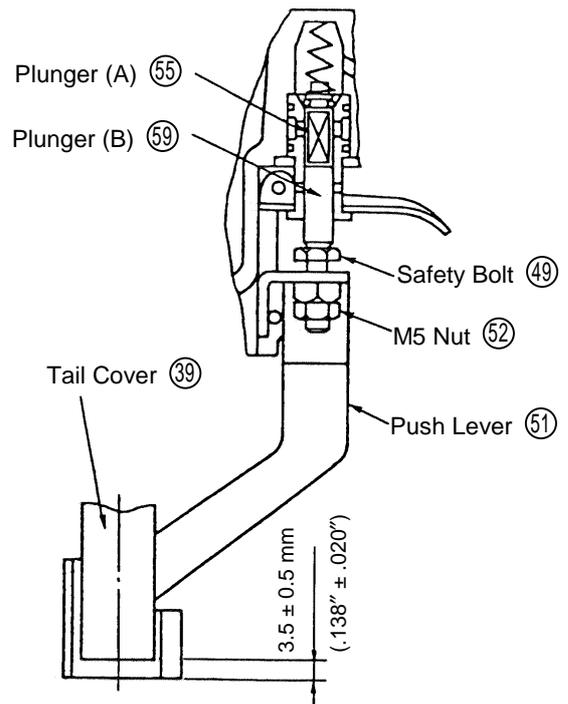

Fig. 14 Push lever assembly adjustment
- Be very careful in handling the Plunger Spring (53), as it can become twisted very easily
- To prevent the two O-Rings on the outside of the Valve Bushing (56) from being damaged when inserted into the Body, carefully apply grease to the Body hole and the outer circumference of the O-Rings prior to assembly.
(c) Adjustment of the Push Lever (51) (see Fig. 14):
- The Push Lever (51) can be adjusted by loosening the M5 Nut (52) and turning the Safety Bolt (49).
- Perform adjustment to a point where the resistance of Plunger (B) (59) pushing up Plunger (A) (55) is felt when the Push Lever is raised. At this point, the lower end of the Tail Cover (39) should be separated from the lower end of Push Lever by $3.5 \text{ mm} \pm 0.5 \text{ mm}$ ($.138'' \pm .020''$).